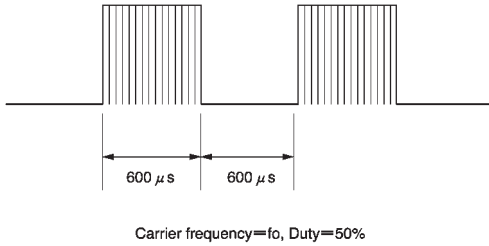
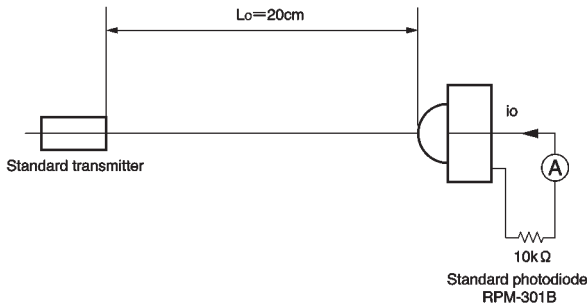
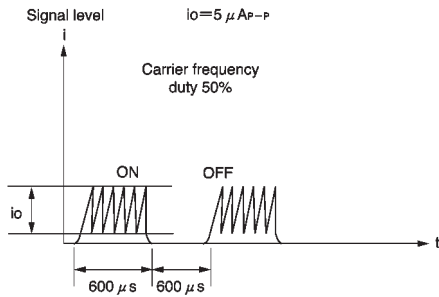

Fig.1 Transmit signal
Fig.2 Measurement of standard transmitter proofreading
Fig.3 Standard photodiode current
*1 The burst wave form mentioned in fig.1 is to be transmitted from standard transmitter (fig.2).
When standard transmitter output the signal at Fig.1 standard photodiode output become $i_o = 5 \mu A_{p-p}$ under the measurement condition Fig2, Fig.3.
(1) All characteristics of the receiver in this specification are specified by supplying burst wave form with ROHM standard transmitter (Fig.2).